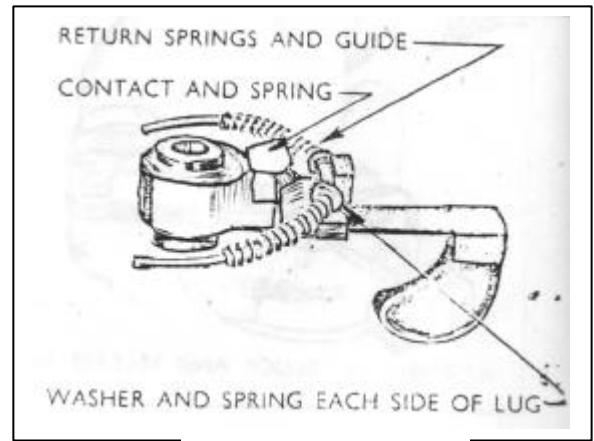

Fig 4.
1. Hold the switch lever upside down and position the sliding contact spring in its recess (See Fig. 4). Locate the switch lever return spring guide in the lug in the lever with one washer and spring on either side.